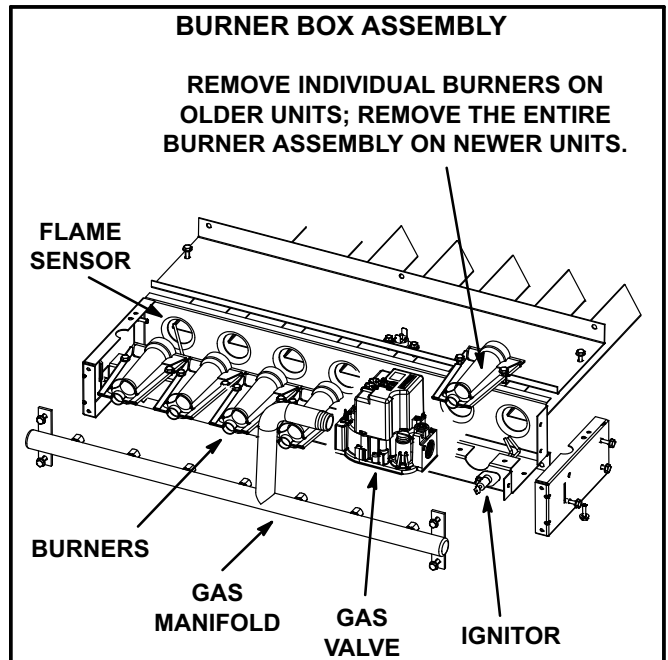

FIGURE 24
- 4- Remove screws securing burners to burner support and lift the individual burners or the entire burner assembly from the orifices. See figure 24. Clean as necessary.